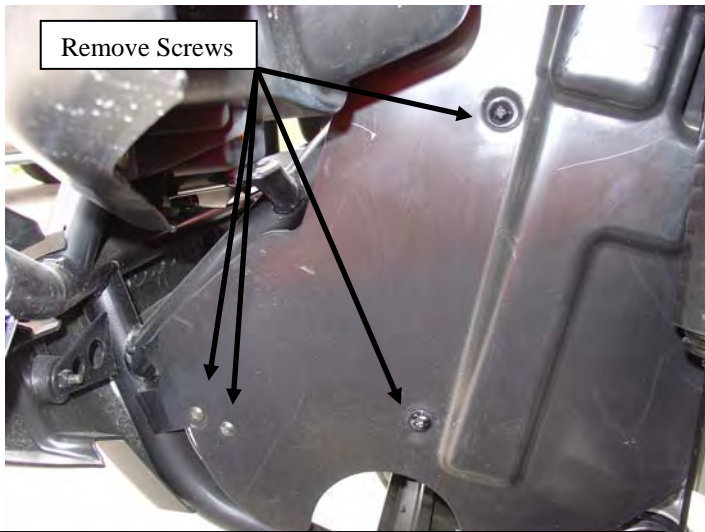

Figure 1 Remove LH Plastic Radiator Shroud (Brute Force 650 ONLY)
1. Begin by removing the LH plastic Side Radiator Shroud located in the front LH wheel well by removing the (4) screws as shown in "Figure 1". Not required but you can also remove (2) of the screws from the RH side to remove the bottom plastic radiator shroud that you will see after you have removed the LH shroud.